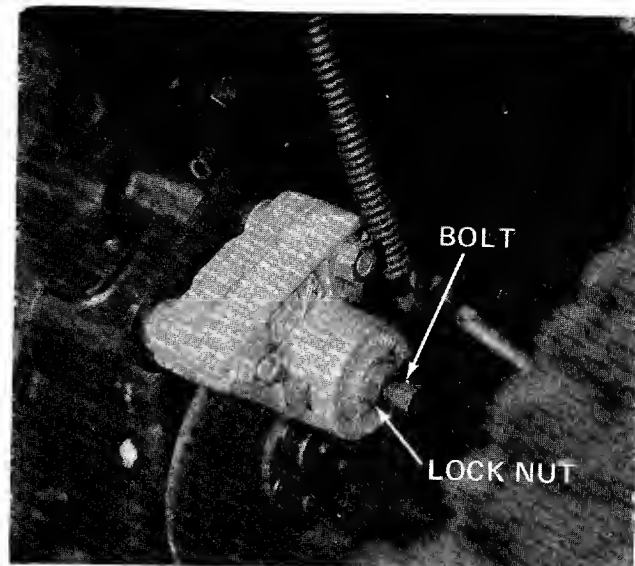

FIGURE 18.
1. Loosen the lock nut. See figure 18 .